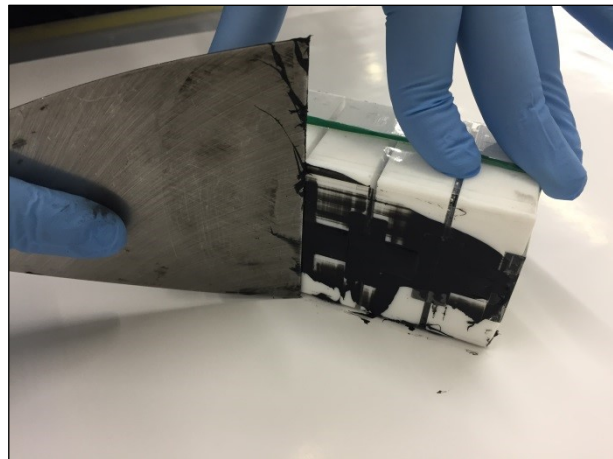

Figure 18: Removal of excess of silicone adhesive
- Prepare at least 2 bubble-free test specimens per test series with Sikasil® IG silicone adhesive. Remove excess material with a spatula or other tool (Figure 18).